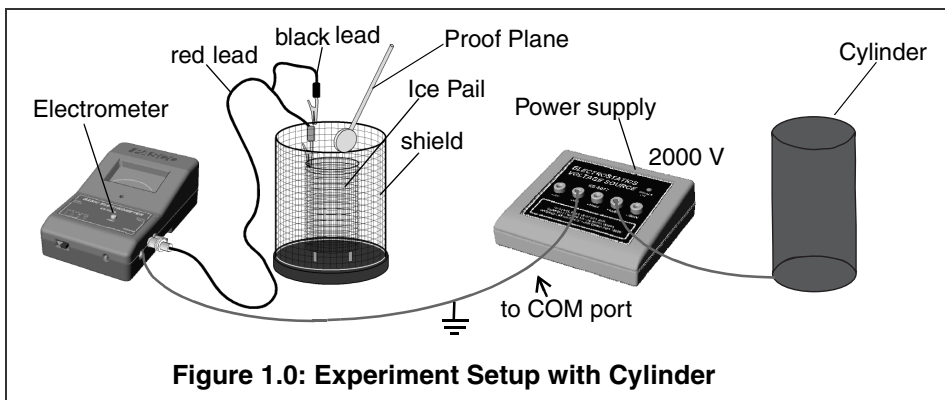

Figure 1.0: Experiment Setup with Cylinder
1. Connect the Electrometer, outer shield of the Faraday Ice Pail, and Electrostatics Voltage Source to a common earth ground. Follow the setup in Figure 1.0. Connect the black lead over the edge of the shield and the red lead over the edge of the ice pail. Connect the Voltage Source to the same earth ground as the shield and the Electrometer.
WARNING: To avoid the risk of shock or electrical injury, always ground your equipment. Before proceeding, follow the setup in Figure 1.0 and instructions in step 1. To ground yourself, keep one hand on the upper edge of the shield of the Faraday Ice Pail or on the earth-ground lead.